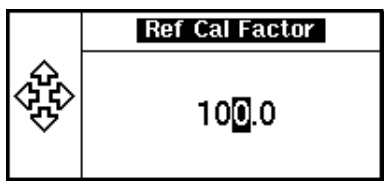

Figure 7-5 Reference calibration factor pop-up window
- 4 If required, change this setting by pressing the channel . The reference calibration factor pop-up window is displayed as shown in Figure 7-5.